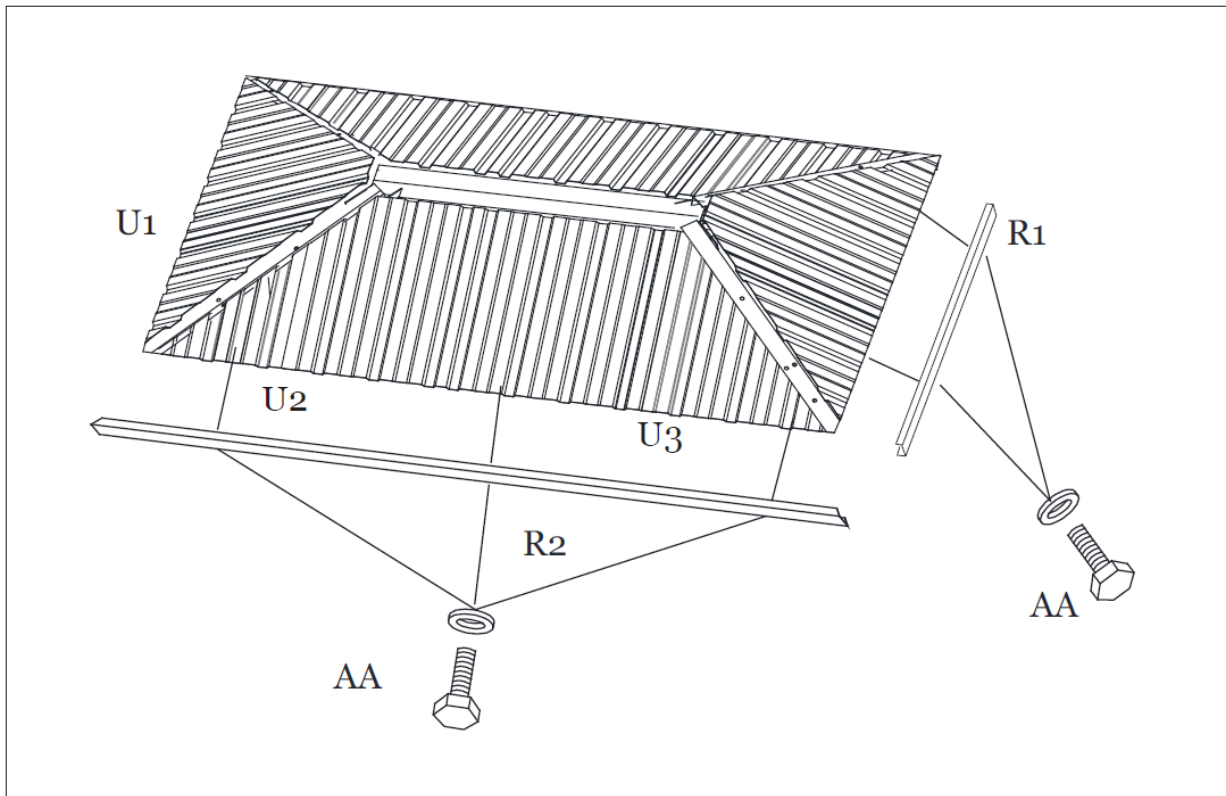

Figure 10-4
Step 10D: Attach the Short Roof Vent Trim (R1) and Long Roof Vent Trim (R2) to the Sides of Roof Vent Frame (P1 and P2) using Bolts (AA). Repeat for all sides. **Tighten all Bolts.** See Figure 10-4.